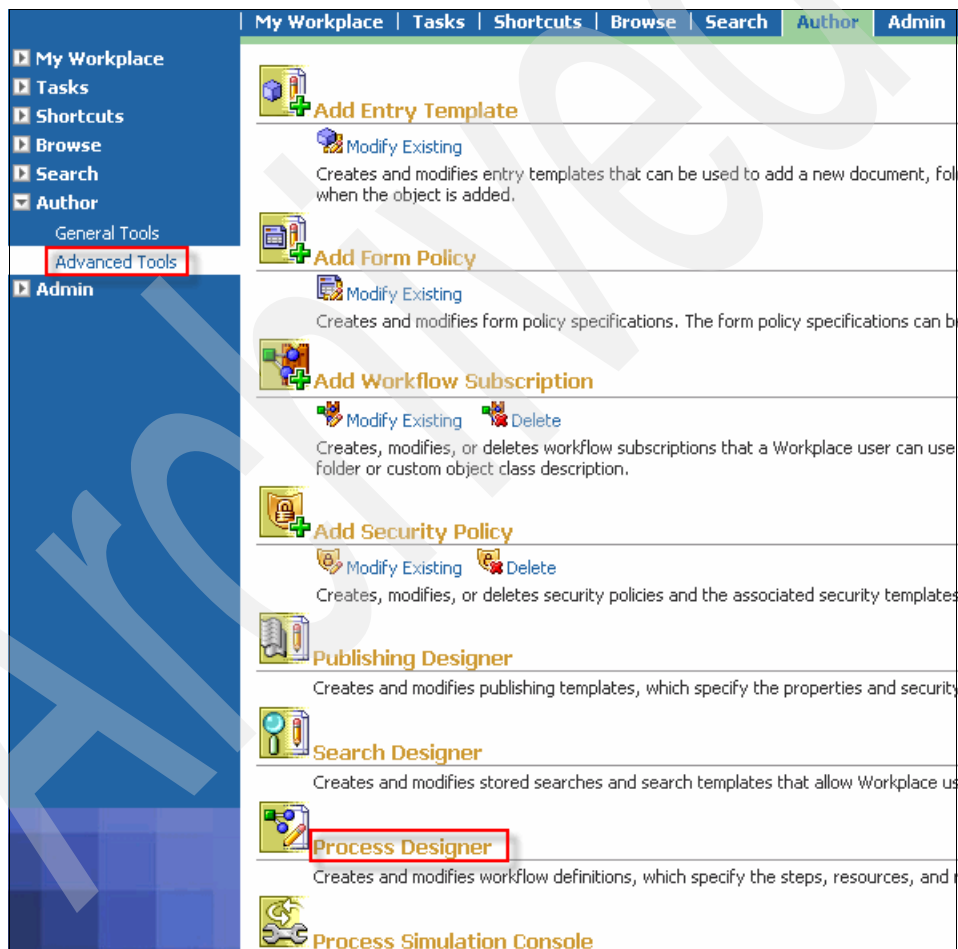

Figure 7-39 Starting the Process Designer tool
2. As shown in Figure 7-39, in the left pane, select **Author** → **Advanced Tools**. In the right pane, click **Process Designer** to start the Process Designer tool.